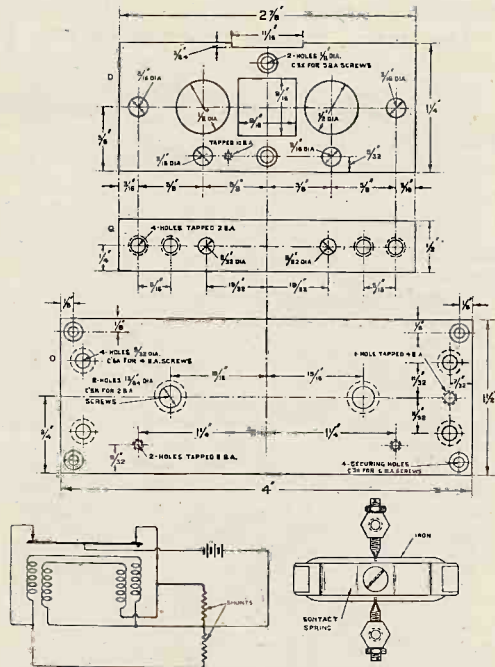

Fig. 3. Drilling dimensions and circuit adopted.
cheeks and available for subsequent connection. Two long No. 6 B.A. brass screws (V) pass through the centre of these bobbins and fix them to the brass base in the positions shown in the photograph. The diagram of connections is shown in Fig. 3.